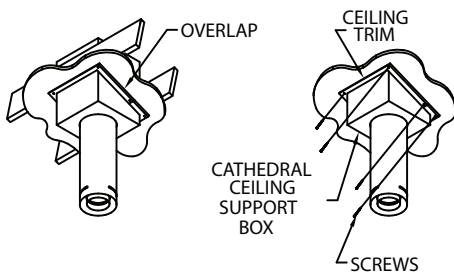

Figure 22
Step 9. Install the black Trim Collar around the outside of the Cathedral Ceiling Support Box. The two pieces of the Trim Collar slide over one another to allow for easy adjustment around the Support Box. Using the six (6) screws provided, secure the four corners and the overlapping sections of the Trim Collar to the underside of ceiling. You may want to pre-drill the holes for the overlapped sections for ease of installation (**Fig. 22**).